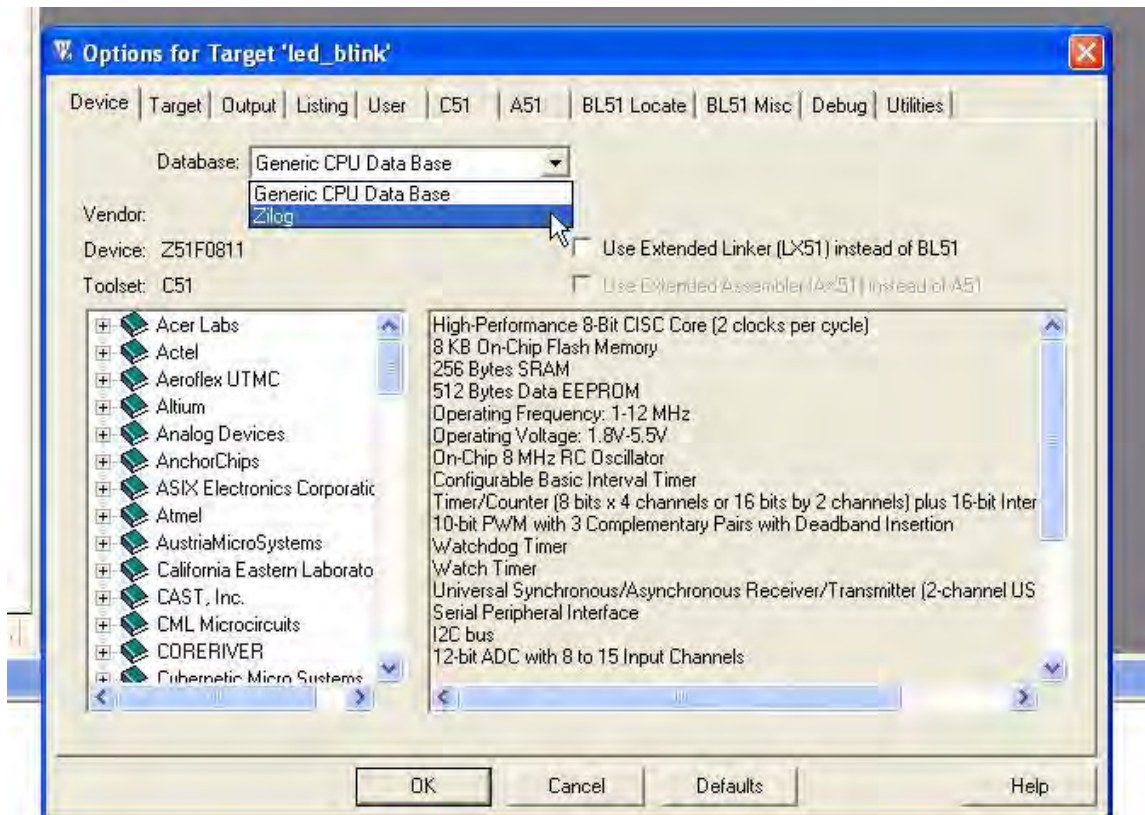

Figure 7. Selecting The Zilog Database
2. Click the **Device** tab. In the **Database** drop-down menu, select **Zilog**, as indicated in Figure 7.